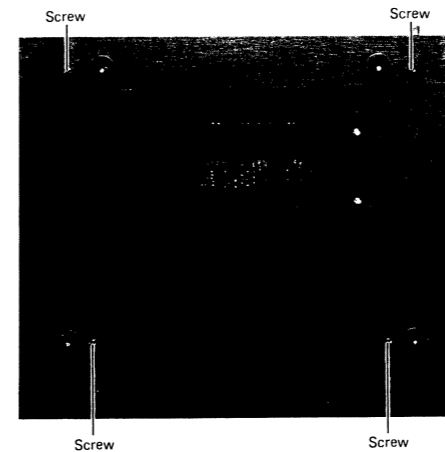

Fig. 1
- Turn the unit over as shown in Fig. 1, and remove the four screws near the feet.